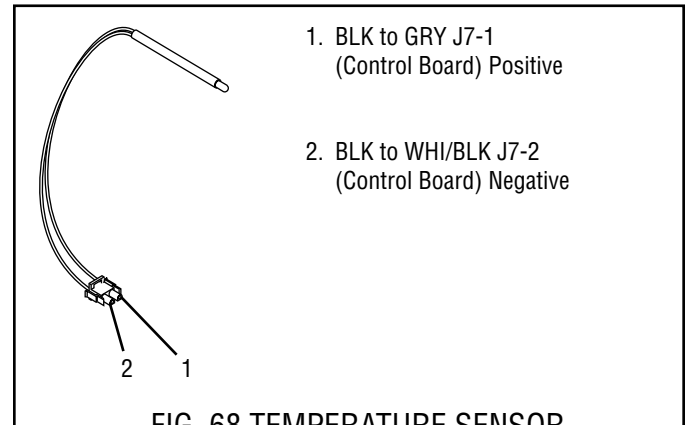

FIG. 68 TEMPERATURE SENSOR
7. Refer to Fig. 68 and connect the wires to the new plug.